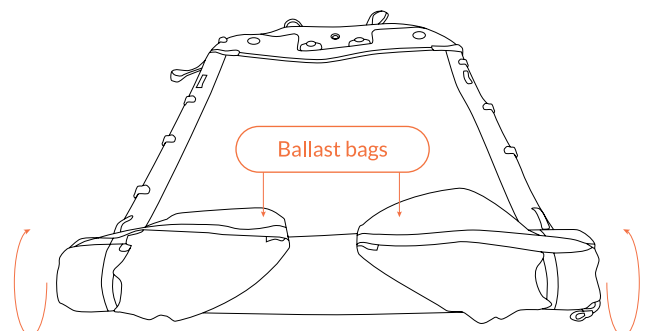

Fig 33 – Roll towards inflation valve
11. As you roll the platform up, position the Ballast Bags so they are flat against the rolled platform (Fig 33).
12. Starting at the end containing the Air Toggle's, roll the Platform around the Air Toggles from one end to the other, making sure the roll is straight and as tight as possible (Fig 33).